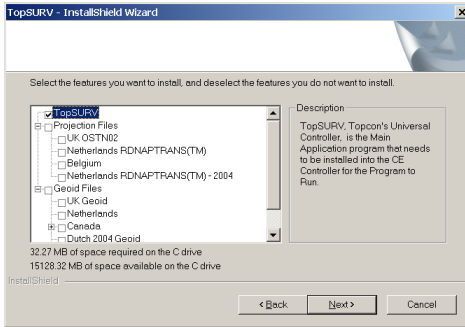

Figure 1-4. Select features
3. Select the features to install (Figure 1-4) and click **Next**.